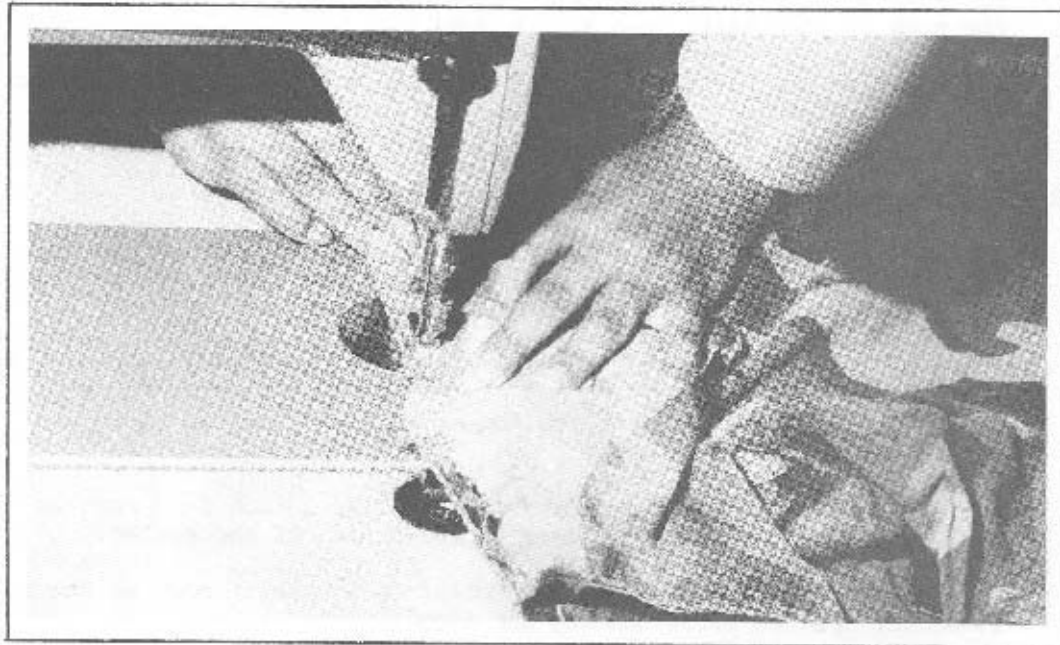
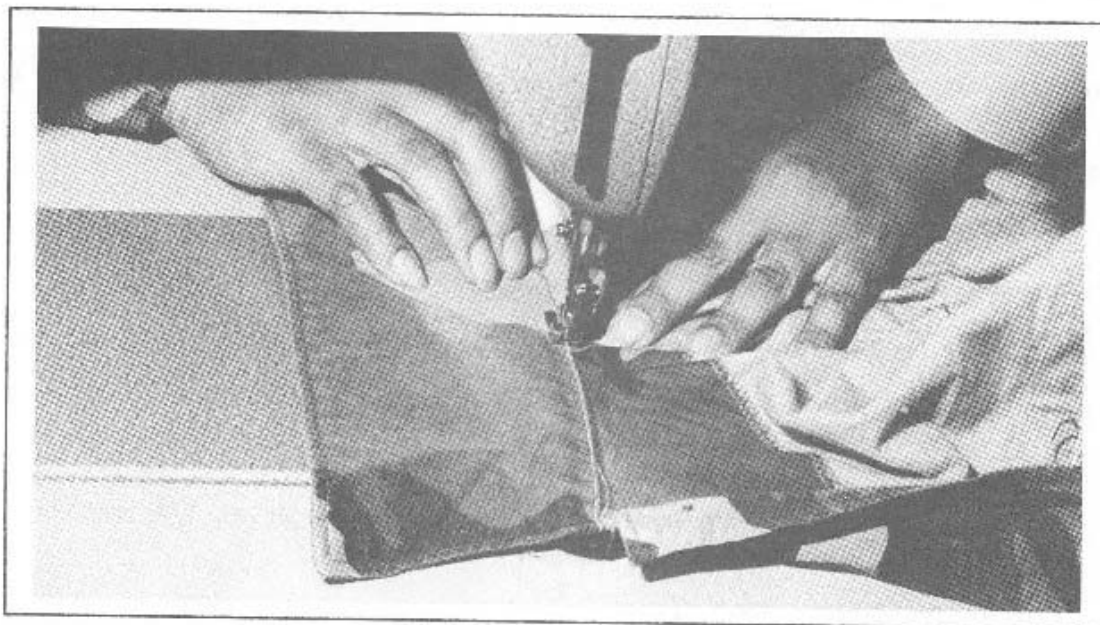

Figure 3-70
Figure 3-71
- e. Make a 1-inch tack by overlapping the 1/4-inch stitch row in the collar, and sew a row of stitches 1/16-inch from the folded edge. Finish the stitch row with a 1-inch tack by overlapping the 1/4-inch stitch row 1-inch. (See Figure 3-70 and Figure 3-71.)